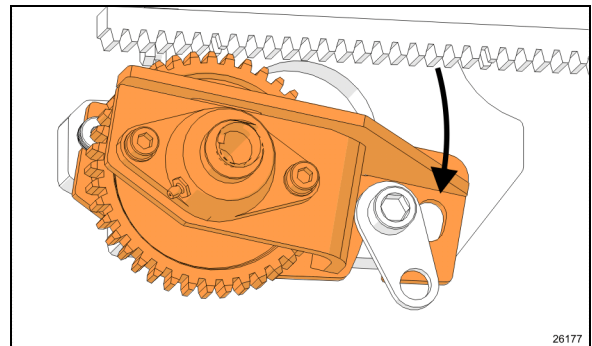

FIGURE 39: PINION ASSEMBLY ROTATION
3. Rotate pinion assembly down. (Figure 39)